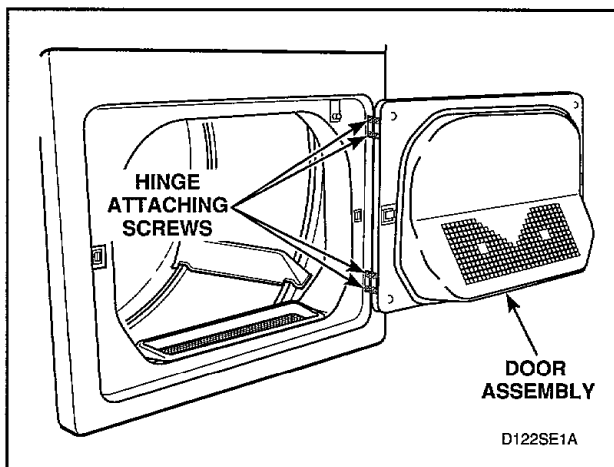

Figure 18
- Support door and remove four screws holding hinges to front panel, *Figure 18*. Remove complete door assembly.